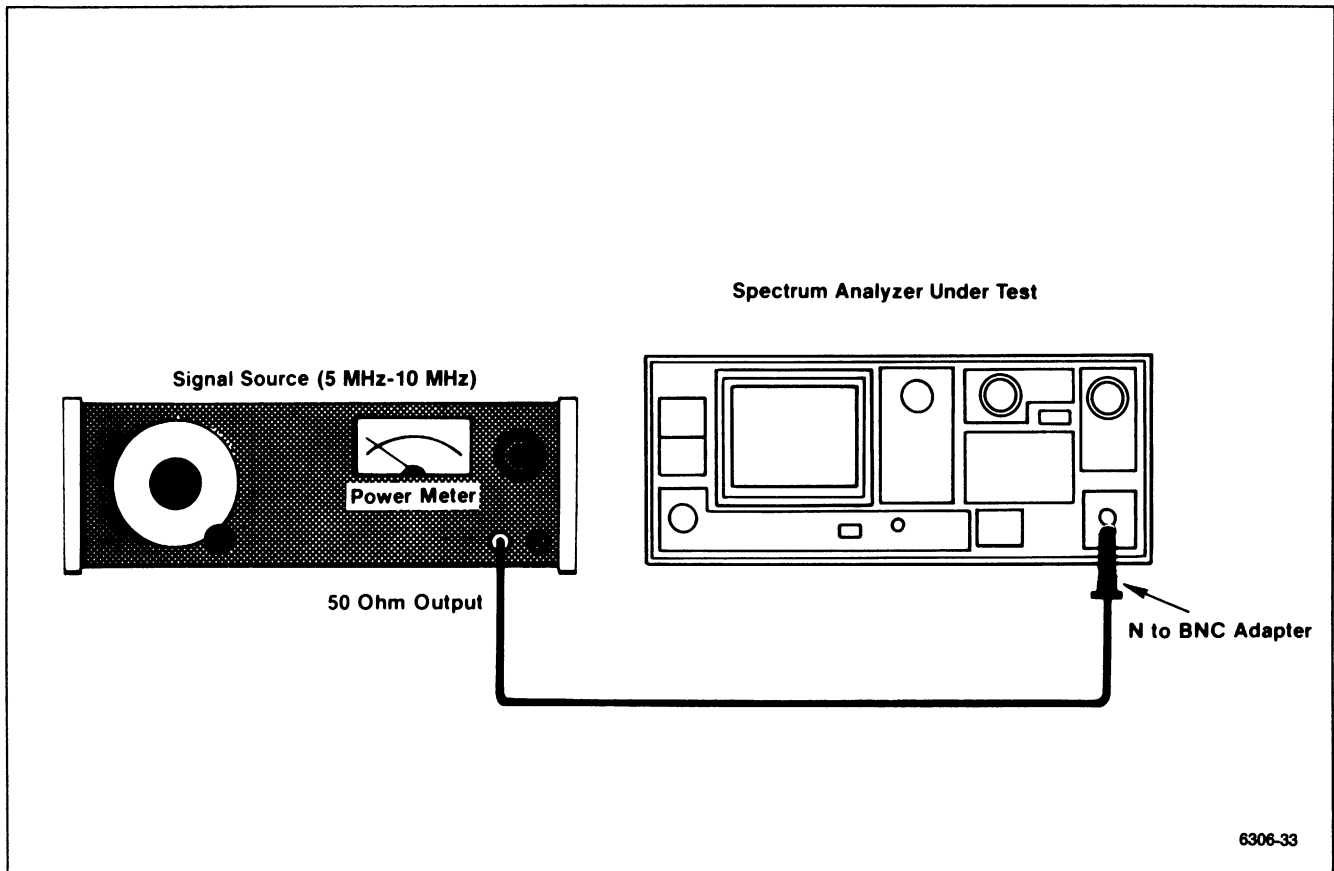

Figure 4-23. Test equipment setup for measuring 100 Hz to 10 MHz frequency response.
g. Reconnect the test equipment as shown in Figure 4-23. Reset CENTER FREQUENCY to 10 MHz.